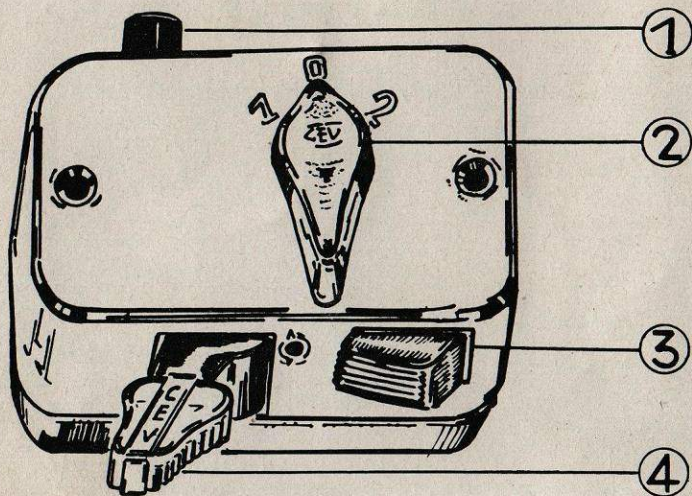

Fig. 5 - LIGHTING SWITCH
- 5 - Lighting switch, including (see fig. 5):